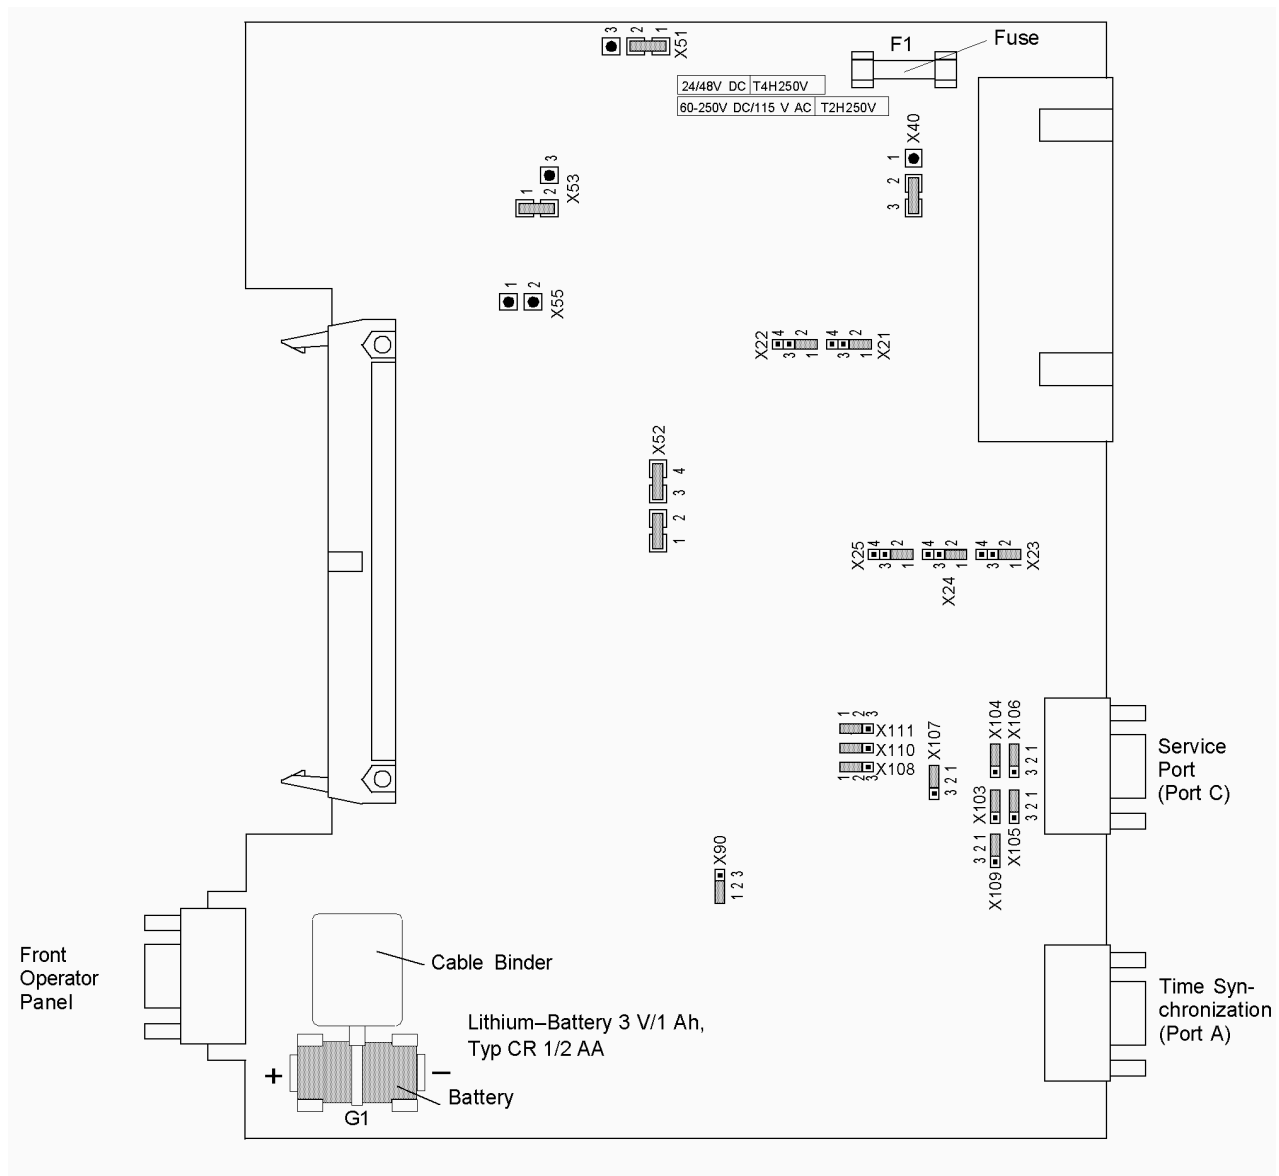

Figure 3-7 Processor printed circuit board C-CPU—2 with jumpers settings required for the board configuration
- Check the jumpers according to Figures 3-7 to 3-13, 3-16, 3-17 and the following information. Change or remove the jumpers if necessary.